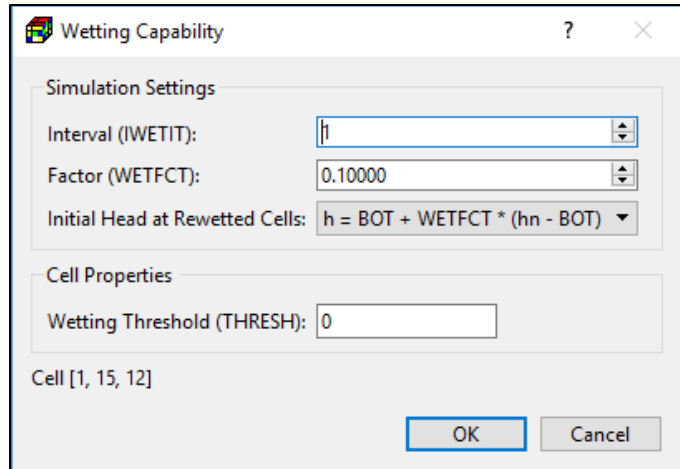

Figure 84. The Wetting Capability dialog box
- 1. All input method:** Figure 84 shows the dialog box for specifying cell, vertex, or polygon properties.